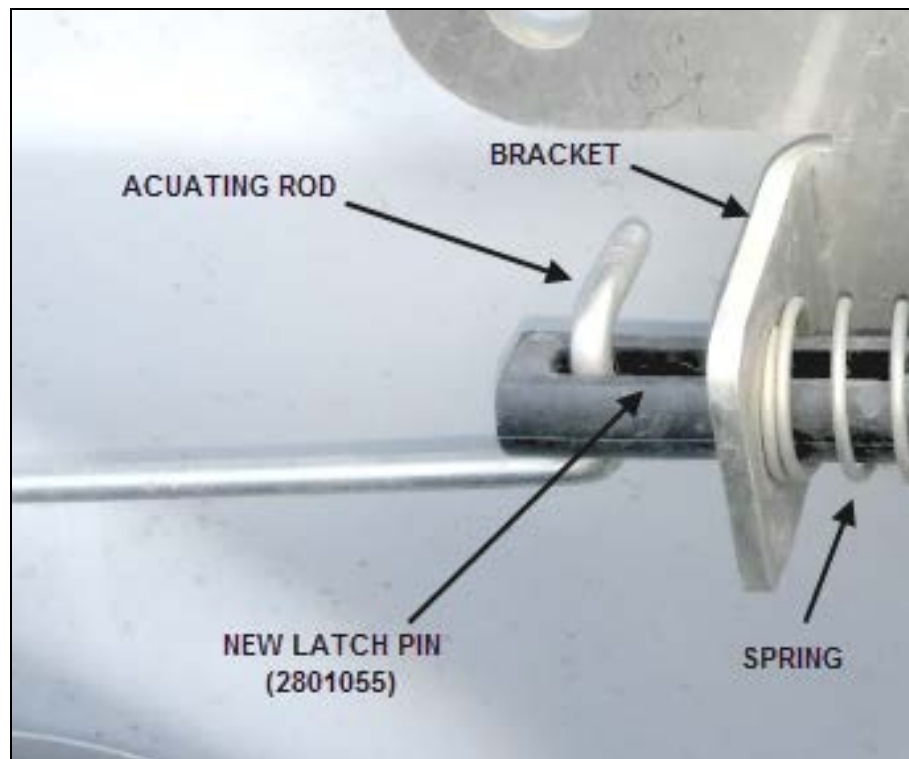

FIG.14 NEW LATCH PIN TO BRACKET INSTALLATION
13. Insert a *new latch pin 2801055* through the spring and bracket "D" hole and re-engage the actuating rod in the pin slot as shown in Fig.14.